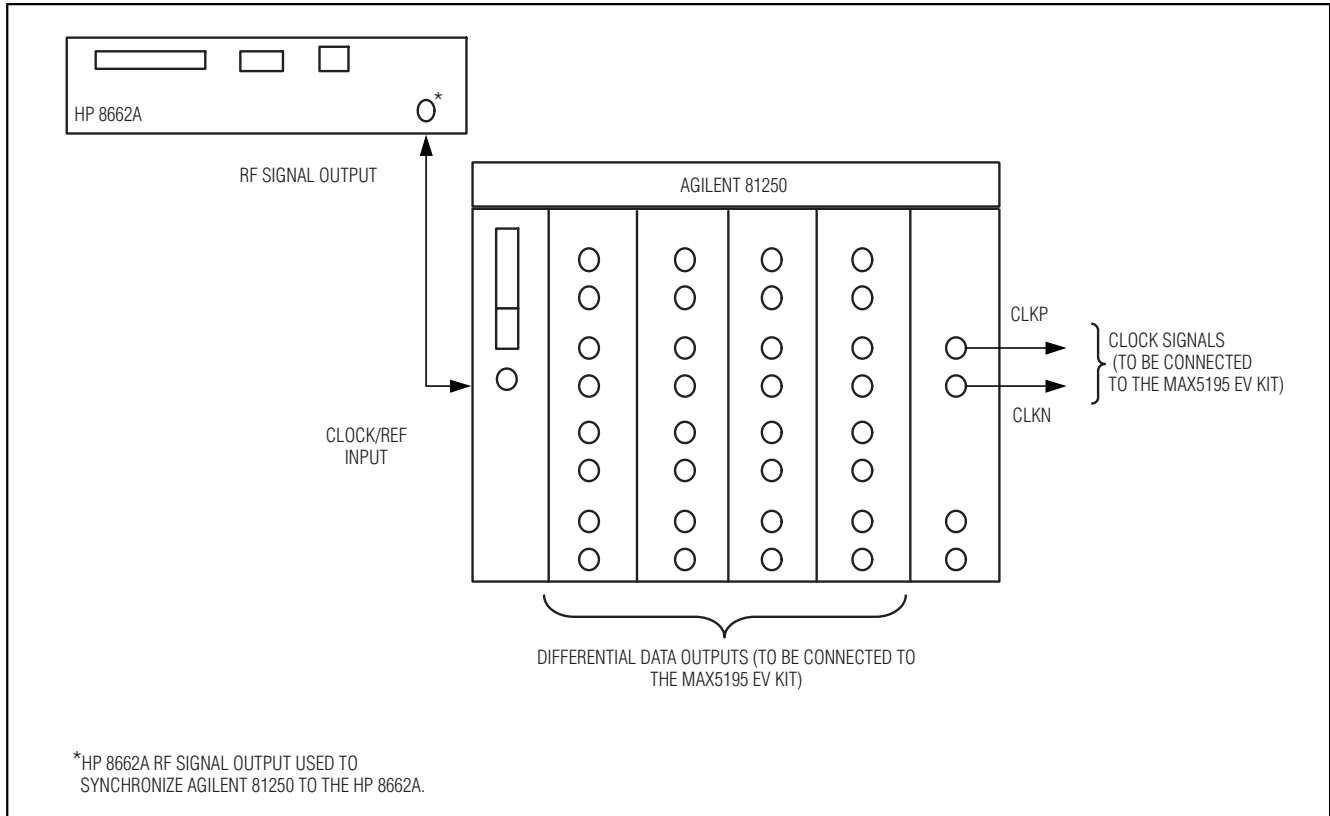

Figure 1. Data and Clock Equipment Setup for the MAX5195 EV Kit
- 3) Synchronize the clock function generator (HP 8662A) to the CLOCK/REF input of the digital signal generator (Agilent 81250). See Figure 1 for equipment setup.